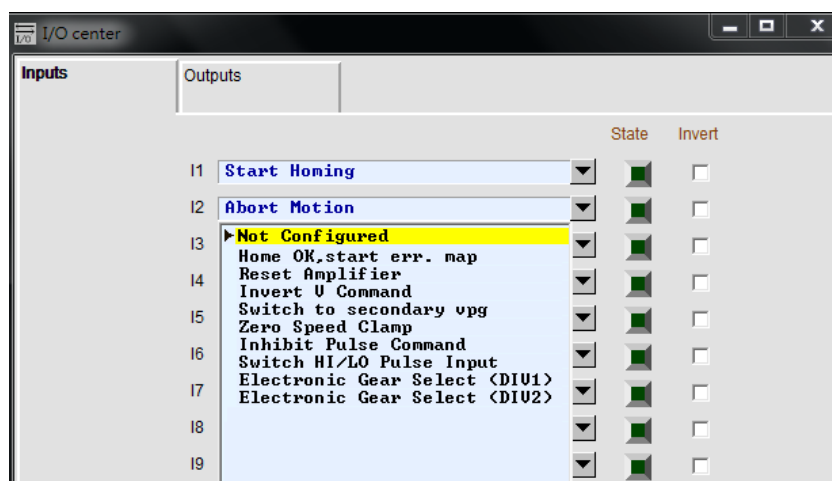

Figure 5.5.1.1 Input function menu
Click  in the main toolbar on the main window to open the I/O center. Click the drop-down button () in the input function menu to select the digital input pin and its function, as shown in figure 5.5.1.1. D2 (D2T) model has 9 (10) digital inputs.